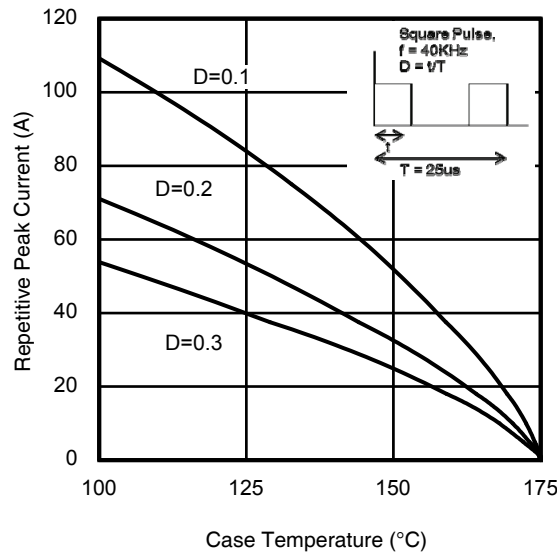

Fig. 26 - Typical Gate Charge vs. V_{GE}
- ① $V_{CC} = 80\%$ (V_{CES}), $V_{GE} = 20\text{V}$, $L = 400\mu\text{H}$, $R_G = 10\Omega$.
- ② R_θ is measured at T_J of approximately 90°C .
- ③ Refer to AN-1086 for guidelines for measuring $V_{(BR)CES}$ safely.
- ④ Pulse width limited by max. junction temperature.
- ⑤ Values influenced by parasitic L and C in measurement.
- ⑥ $f_{sw} = 40\text{KHz}$, refer to figure 26.